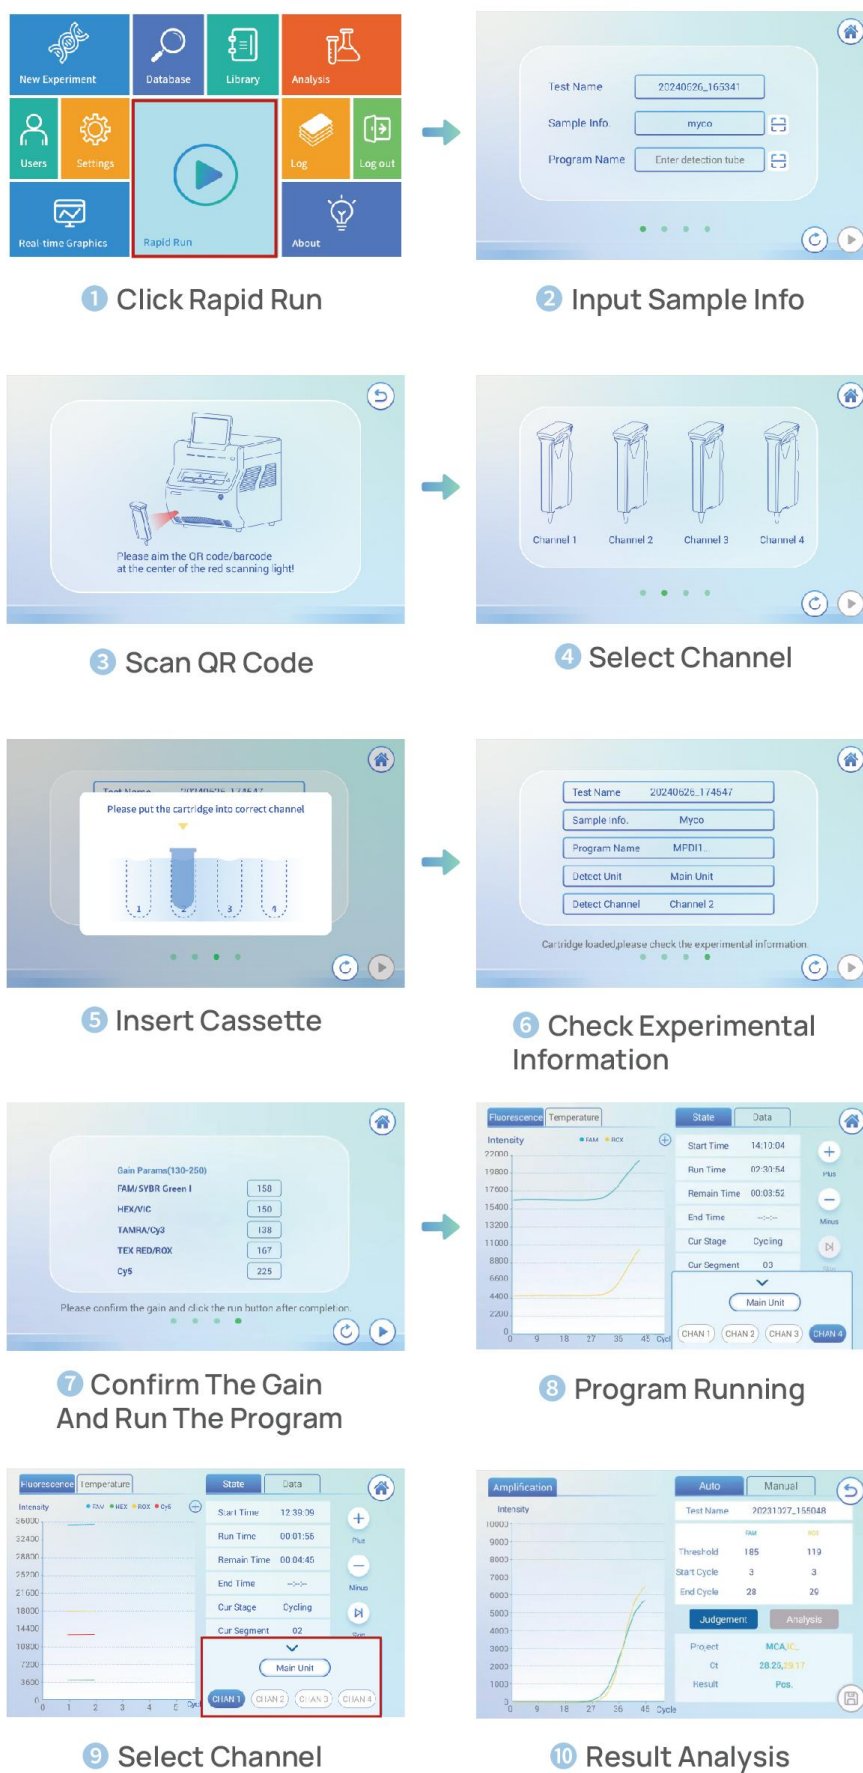
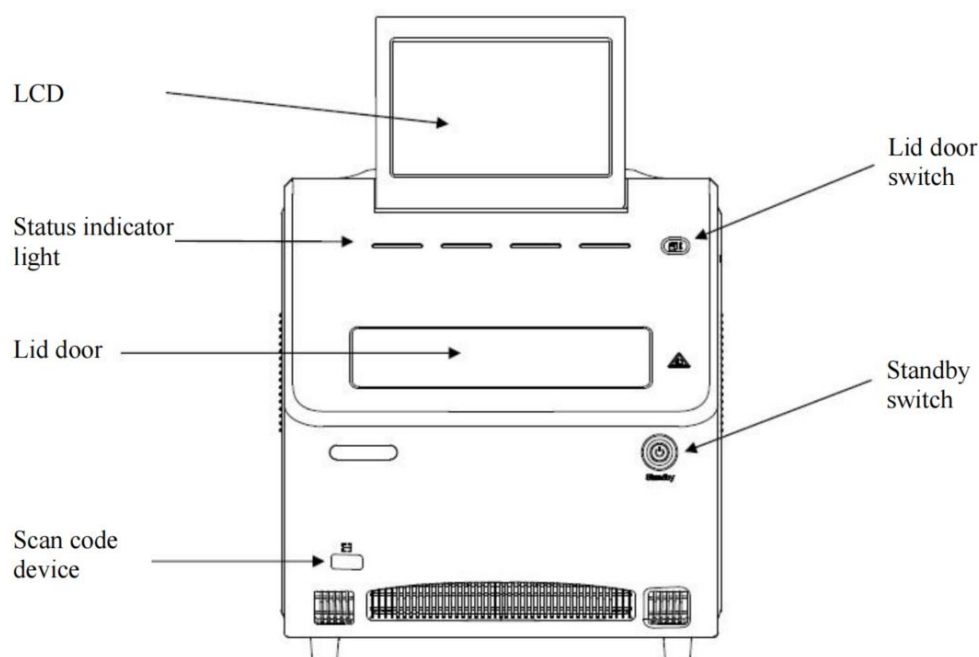

Figure 13. Program Running Graphic Scheme
Figure 14. Program Running Graphic Scheme
11.4.1 Select 'Rapid Run' on the main interface to display the sample information input screen (Figure 13). A date and time value is automatically set as the default test name. Tap the 'Test Name' field to edit it.
Next, select the  button next to the 'Cassette No.' field to scan the cassette QR code. Align the center of the QR code with the scanner to load the program (Figure 13). The recognized information will then be automatically displayed in the 'Cassette No.' field.
11.4.3 Select the appropriate cassette channel on the screen (Figure 13). Press the '**Lid Door Switch**' button on the instrument's front panel (Figure 14) to open the lid door. Insert the cassette into the the corresponding channel, and press firmly to ensure secure placement. Then press the '**Lid Door Switch**' to close the lid door.
11.4.4 Proceed with the preset the gain values (All parameters must be established through calibration and remain unchanged for testing.), then select the  button in the bottom right corner of the screen. The program will start and the program interface displayed on the screen (Figure 13).
11.4.6 Check the real-time graphics during testing, and review the results after the analysis is complete (Figure 13).